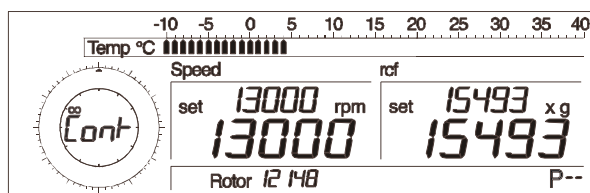

Fig. 5.13: Continuous run display
- Starting with the time setting 11:59, turn the knob clockwise to the next setting. The message “cont” and the symbol "∞" will be displayed (Fig. 5.13).